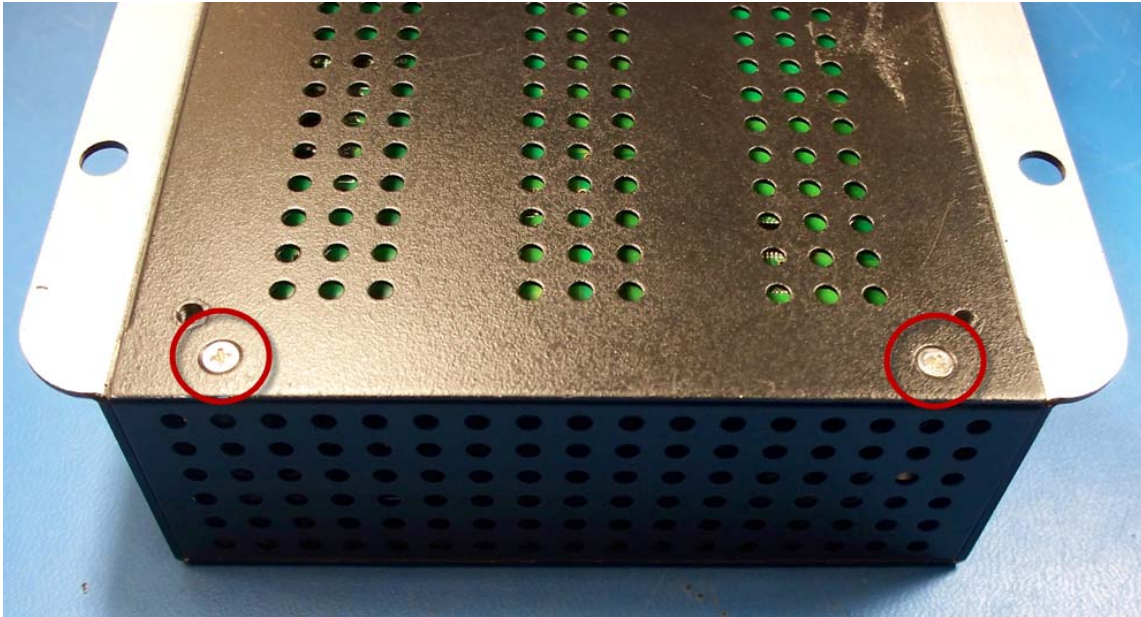

Figure 4-2: Screws on Bottom of Unit
3. Flip the unit on its back and note the two screws at the bottom (near the front) of the 2407 unit, as shown in Figure 4-2.
4. Remove these two screws (highlighted in Figure 4-2 with red circles).